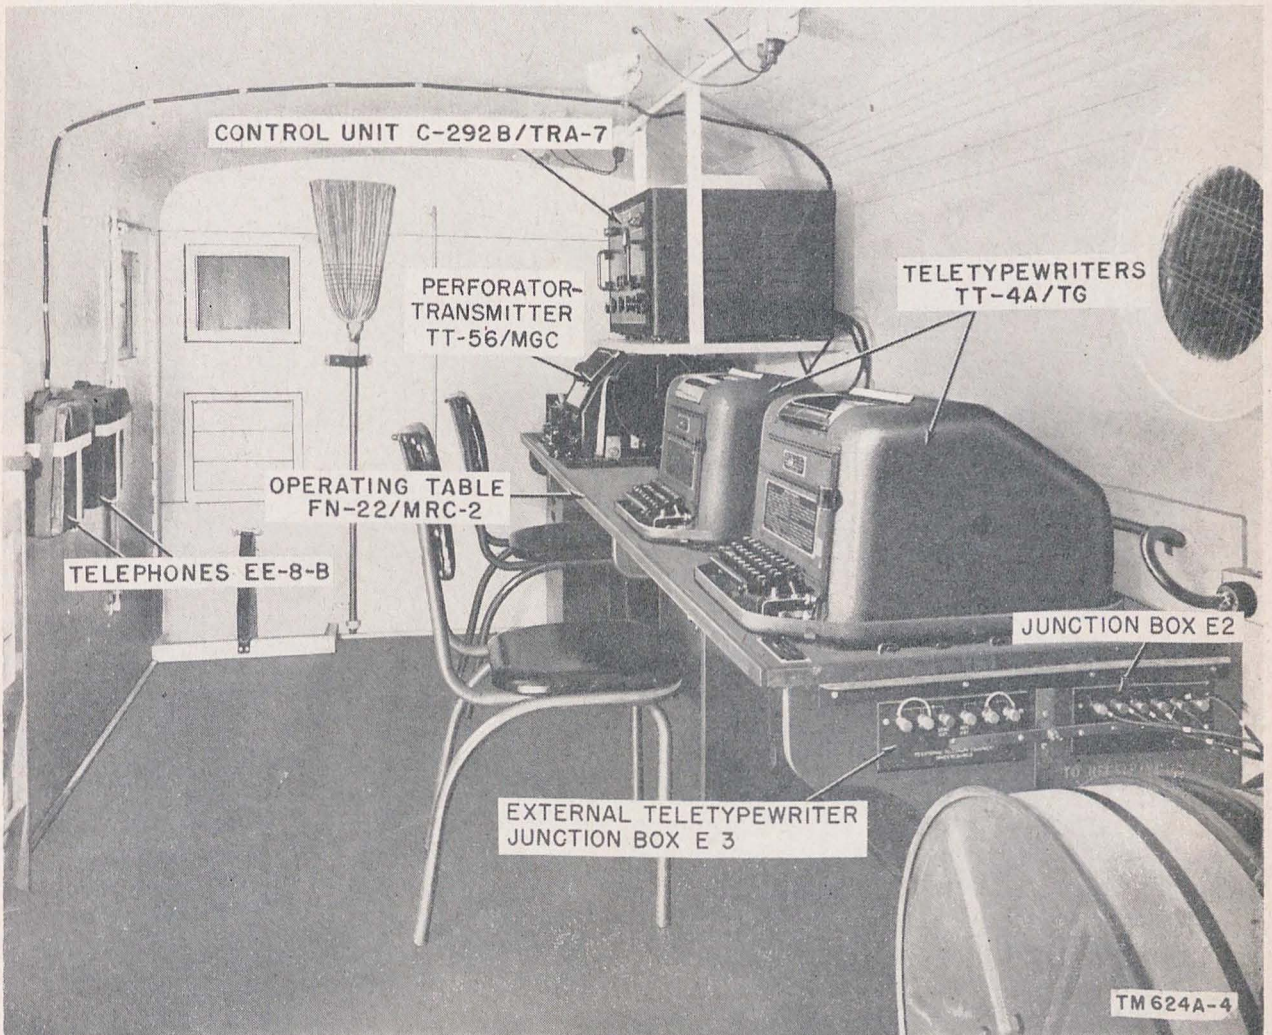

Figure 15. Radio Set AN/MRC-2(\*), interior view of operating shelter.
The operating shelter is the control center of the station system. It may be located up to 10 miles from both the transmitting and receiving shelters, with interconnections made by wire lines. The following is a general description of the operating shelter and of components housed within it (fig. 15). A complete list of components can be found in the appendix.
*c. Control Unit C-292B/TRA-7* (figs. 15 and 16). Control Unit C-292B/TRA-7 is located on a shelf directly above the center of the operating table. The unit is inclosed in a black, crackle-finished, metal cabinet, which is shock-mounted on the shelf. The control unit converts polar telegraph signals received from the dual diversity converter into neutral signals for operation of a receive teletypewriter. It also converts the neutral signals from a send teletypewriter into polar signals for transmission over a wire line to the frequency-shift exciter unit. The control unit also provides facilities for establishing full-duplex, half-duplex, one-way reversible, or emergency operation.
*d. Teletypewriters TT-4A/TG* (fig. 15). Two Teletypewriters TT-4A/TG are located on the
*h. Operating Table FN-22/MRC-2* (fig. 15). Operating Table FN-22/MRC-2 extends along the curbside wall of the operating shelter. Compartments are provided underneath the table for storing extra rolls of paper for the two teletypewriters. Built into the table, and considered a part of it, are various jack panels and connectors. These consist of the following:
- (1) *Shelter junction box E1*. This is a terminal board fitted with six binding posts for connecting telephone, control, and teletypewriter signal lines to the transmitting shelter. The unit is built into the side section of the operating table near the front wall of the shelter and is marked TO TRANSMITTING SHELTER.
- (2) *Shelter junction box E2* (fig. 15). This is a unit similar to junction box E1. Telephone, control, and teletypewriter signal lines connect from junction box E2 to the receiving shelter. Installation is
- (3) *External junction box E3.* (fig. 15). This is a terminal board provided with six binding posts for connecting external telegraph equipment. The terminal board is installed on the rear side section of the operating table. TO EXTERNAL TELEGRAPH EQUIPMENT WHEN REQUIRED is marked on the board.
- (4) *Teletypewriter jack panel.* This bakelite panel has four jacks and is mounted on the operating table top between the two teletypewriters. Each jack is connected in series with a similarly labeled jack in Junction Box J-204/MRC-2.
- (1) *Telephone EE-8-B.* In the operating shelter, two telephones are mounted in brackets on the roadside wall (fig. 15, par. 8r.)
- (2) *Heater.* Refer to paragraph 8y for a description of the heater.
- (3) *Blower.* Refer to paragraph 8z for a description of the blower.
- (4) *Fire extinguisher.* Refer to paragraph 8aa for a description of the fire extinguisher.